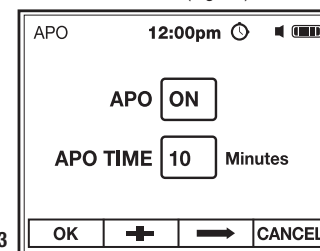

Fig. 23
2. Use the **F3** ⇌ soft key to select APO or APO TIME (highlighted in red), (Fig. 23).
3. Use the **F2 +** soft key to turn APO ON or OFF or adjust APO timer (Max. 30 min), (Fig. 23).
4. Press the **F1 OK** soft key to save setting and return to Meter Settings (Fig. 23).